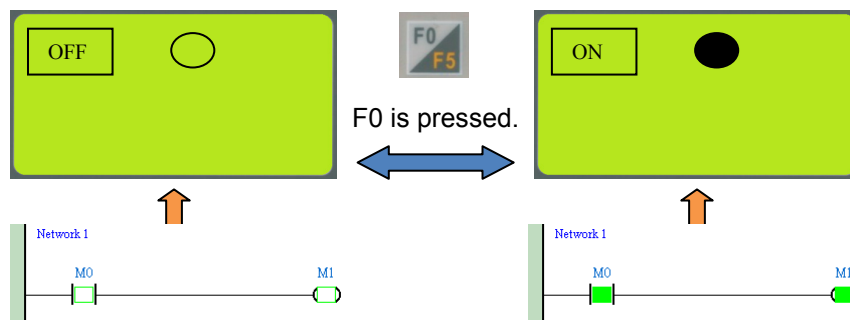

Figure 6-25 Executing a program
- Step 11: When the TP04G series text panel is connected to the PLC successfully, the users can press F0 on the TP04G series text panel. The button displayed on the TP04G series text panel corresponds to M0 in the PLC. When the users press F0 on the TP04G series text panel, the state of M0 is changed. The state of M1 is changed by means of the PLC program designed, and the state of M1 is represented by the bit lamp displayed on the TP04G series text panel. Please see Figure 6-25.